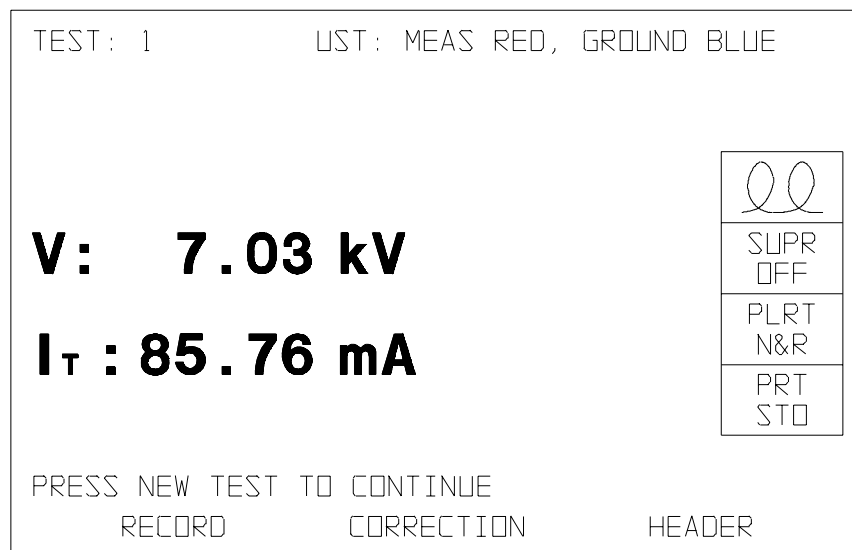

Figure 22: Test Results, Transformer Excitation Test
12. Press the MEASURE button when ready to make a measurement. This will light the red operation lamp (to the right of the MEASURE button) and initiate a measurement test (either single or continuous, depending on which OPERATION MODE was selected in second menu screen). When the test is completed, test voltage is removed from the specimen and test results are displayed on the screen. A typical test result is shown in Figure 22. The red HIGH VOLTAGE ON lamp will remain lit, indicating that the high-voltage circuit is still enabled. The red operation lamp will be extinguished.